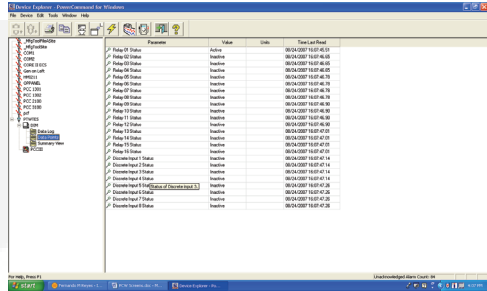
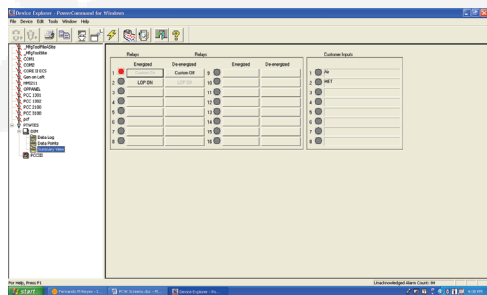

FIGURE 2-39. DATA POINTS SCREEN
FIGURE 2-40. SUMMARY VIEW SCREEN
- Double click on DIM to view the contents of the DIM folder. Data Log, Data Points (see Figure 2-39), and Summary View (see Figure 2-40) screens can be viewed.